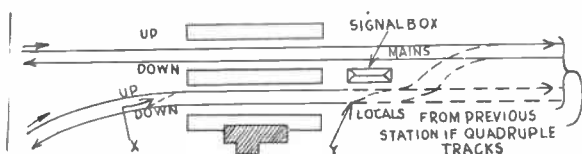

Fig. 4
The lid is just a flat block of wood 1in. thick cut to fit neatly inside the press, leaving a margin of not more than $\frac{1}{8}$ in. round the sides. The fulcrum is fixed across the centre (see Fig. 4), and this also acts as a handle for lifting out the block. Cut a length of 1in. square wood 4 $\frac{1}{2}$ ins. long, taper and round off the top as in Fig. 4, and fix in position with two brass screws. If the screws are inserted from underneath they must be filed off flush, but it is better, however, to fix them from the top.
If parallel tracks are run in quadruple form (a very rare occurrence in model form) as shown in Fig. 4, it is obvious that branch-line stopping trains are held clear of the actual junction without the use of either a burrowing junction or a fly-over junction; though branch-line trains can arrive at the station platforms to be reversed and run back if cross-overs for engine round are duly provided at (X) and (Y).